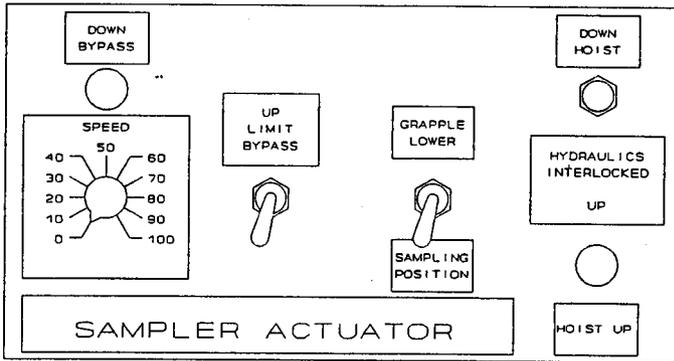

Figure 9) Drill Rig Actuator Controls
**START CONDITION:** Initialize Electrical System (ref. 7.1.1)
- TD/CE *Alj JLS* 7.3.2.2 SET the motor speed control on the SAMPLER ACTUATOR panel to the 40 position. (Refer to Figure 9 below for the Actuator Controls.)